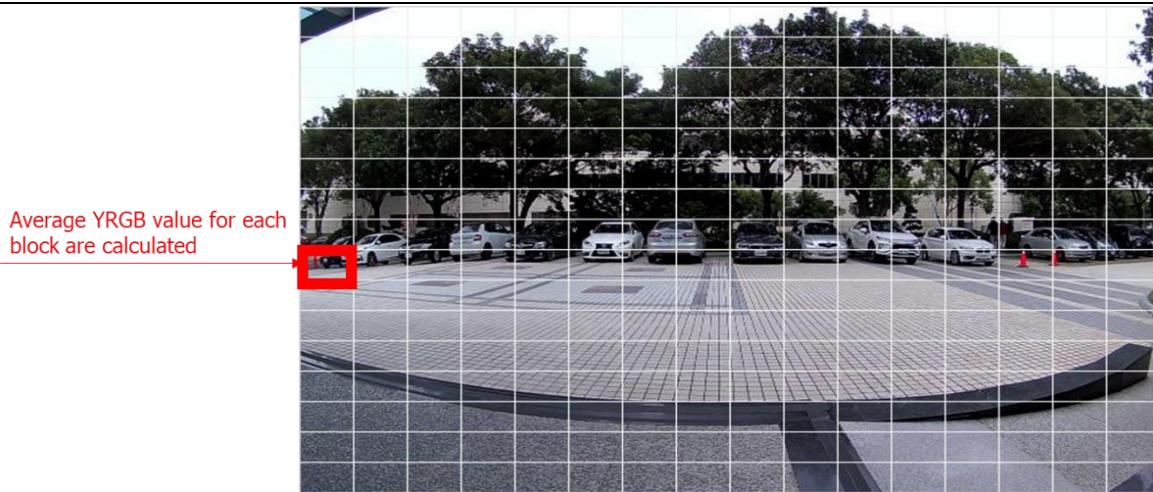

Figure 15-6 16x16 YRGB data
The 16x16 YRGB value is calculated by averaging the RGB image generated by from video channel 4. Each value corresponds to the average YRGB value for dividing the image into a 16x16 frame. As shown in Figure 15-6. Calculating motion with 16x16 YRGB data has some advantages, such as (1) saving computation time, (2) taking into account color information, (3) filtering out noise